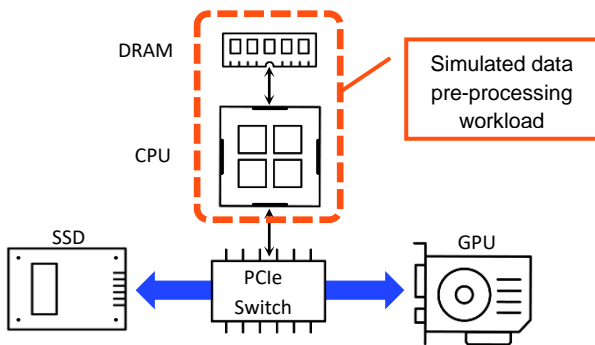
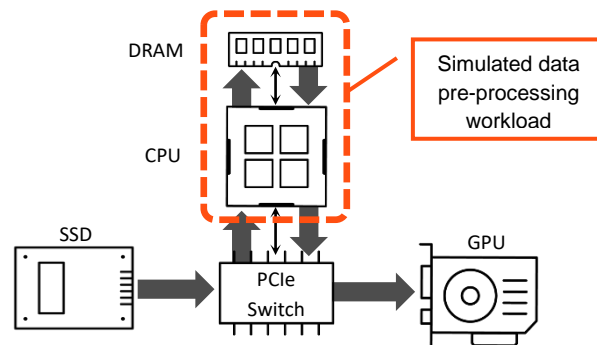

Figure 2: GDS IO path
Figure 3: Legacy IO path
GDS is a technology that enables a direct memory access (DMA) data transfer path between an SSD and graphics processing unit (GPU) memory as shown in Figure 2. NVIDIA is a pioneer in artificial intelligence (AI) from introducing the GPU in 1999 to the first release of GDS in 2021.²
The data pre-processing workload is generated using the Google Stressful Application Test (stressapptest) configured as noted in Table 1.⁴ The pre-processing workload results in 86% CPU utilization across both 64-core CPUs and system memory loading at 205 GB/s (roughly 50% of the total available memory bandwidth). Figure 2 represents the data path for a busy system when GDS is enabled while Figure 3 represents the legacy IO data path (GDS not enabled) for a busy system.